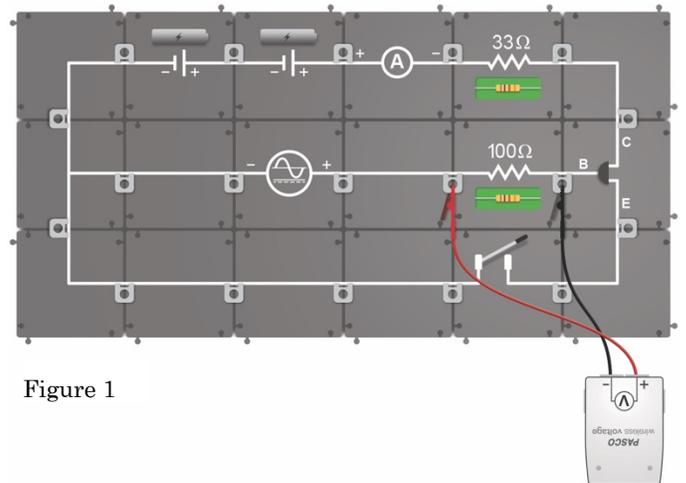

Figure 1
2. Construct the circuit shown in Figure 1 using the circuit modules, wireless current sensor module, and the wireless AC/DC module. Note the polarity of wireless current module, wireless AC/DC module, and battery connections. Leave the switch open for now.
3. Find an NPN transistor in the components bag and connect it to the transistor module. It is labeled 2N3904, you may need a magnifying glass to read it. The flat side should face away from the letter B on the module. See Figure 1.